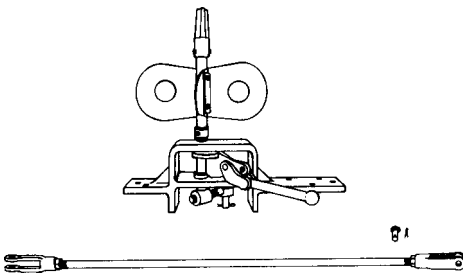

Figure 21 - Two Tie Operating Stand & Parts
8.1 Two-Tie Operating Stand & Parts Figure 21 shows the operating stand. It is made to throw any Hayes Sliding Derail. Operating stands cannot be used with Hinge Derails. All Operating Stands can be padlocked.